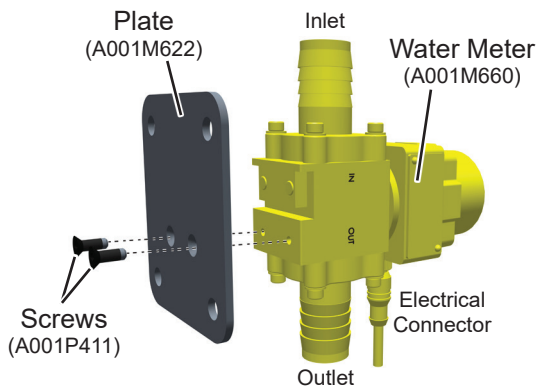

Figure 4
8. Secure water meter (A001M660) to plate (A001M622) with screws (A001P411). See Figure 4. Make sure to mount water meter to plate with inlet up, outlet down, and electrical connector on the bottom.